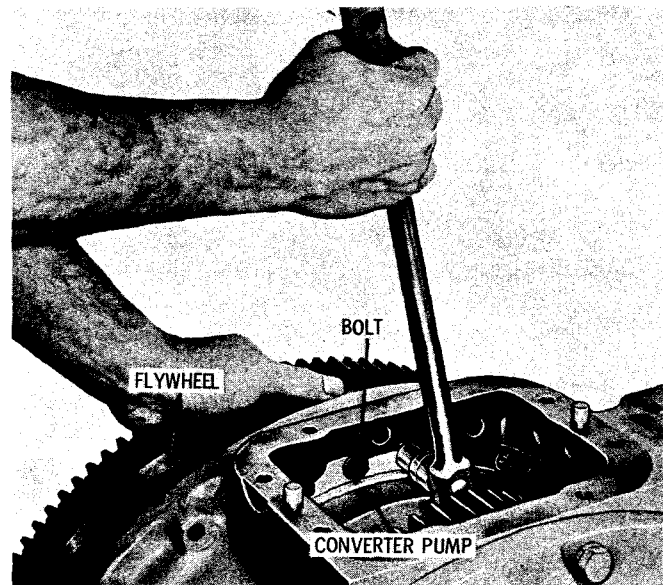

Fig. 5-17. Removing flywheel bolts (direct mount)
(9) On direct-mount transmissions, remove 36 bolts (accessible through top PTO opening) and flat washers which secure the flywheel to the converter pump (fig. 5-17).